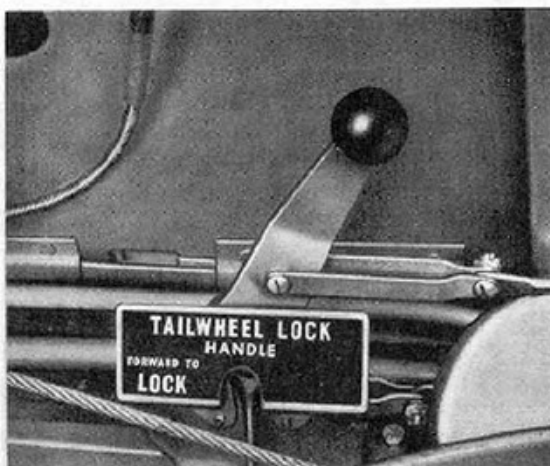

Figure 19—Tail Wheel Lock Control
b. TAIL WHEEL.—The tail wheel is a free swiveling, hydraulically retractable unit. A mechanical up-lock aids hydraulic pressure in retaining the gear in a retracted position, and an extension spring maintains a mechanical advantage built into the unit which holds it extended. The tail wheel may be locked in the fore-and-aft position by the control handle (figure 19) to the right of the cockpit seat.